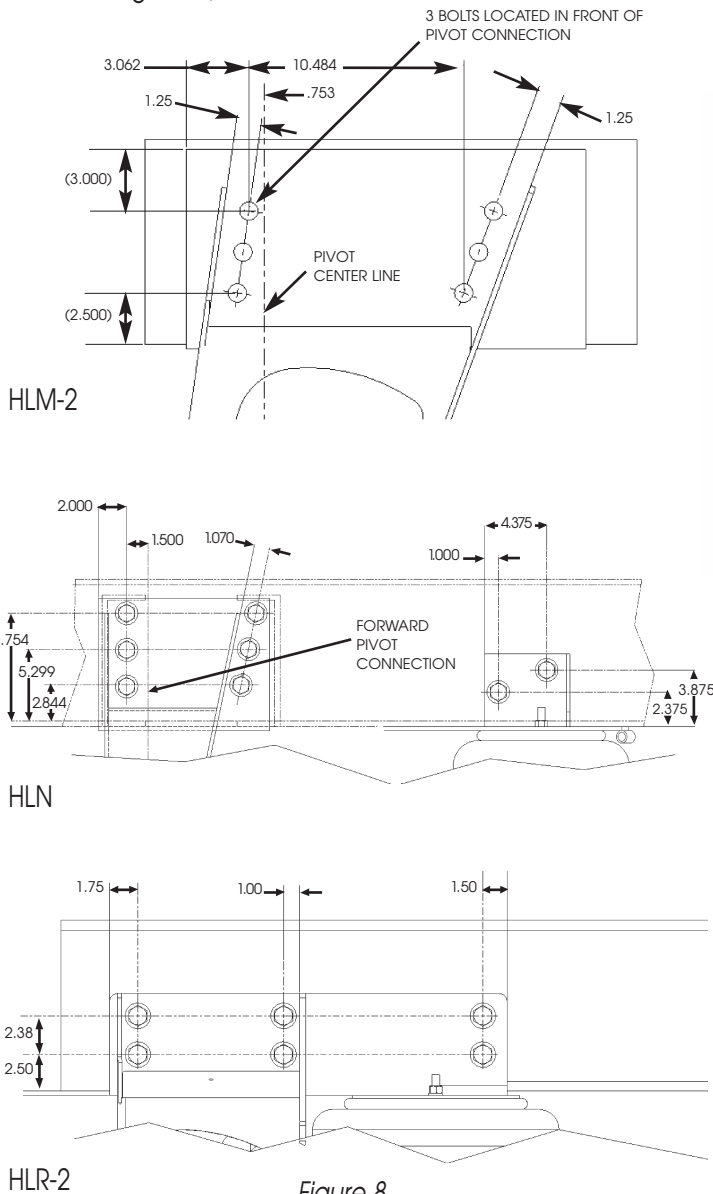

Figure 8
8. With the suspension frame brackets tight against the vehicle frame, mark the location of the mounting holes on the outward side of both auxiliary suspension frame rails. Punch mark all hole centers. (See Figure 8.)